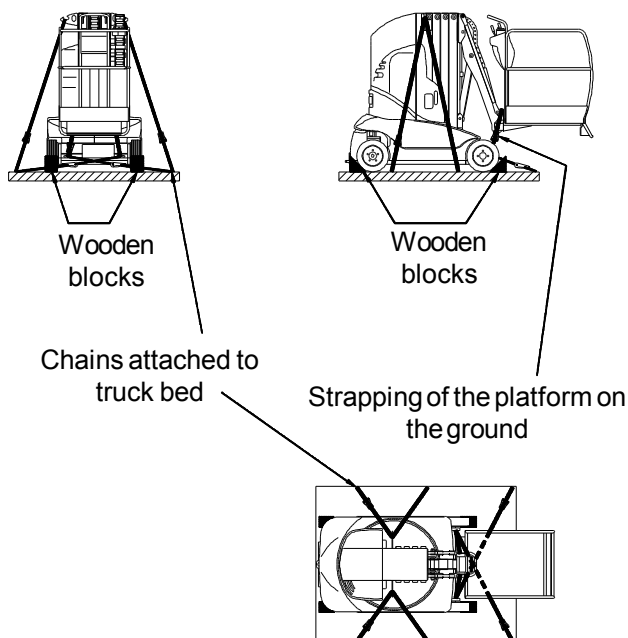

Fig. 6.6 - Transport instructions.
- Tie the machine down securely on the bed of the truck (See figure 6.6 ).
- Chock the wheels in both directions (Figure 6.6).
- Tie down and chain the machine securely (Figure 6.6).